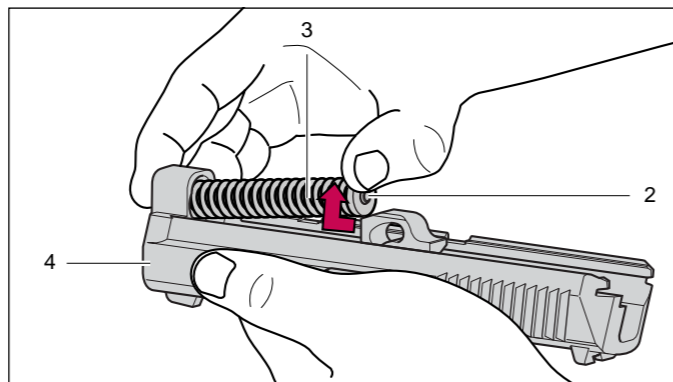

Fig. 11
7. Push the recoil spring guide **2** carefully forwards and to one side or lift off and remove the recoil spring **3** with the recoil spring guide **2** from the slide **4** (Fig. 11).